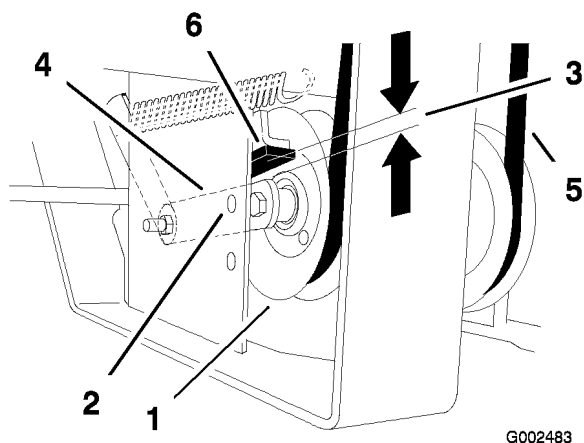

Figure 54
9. Check the distance from the rubber stop and the arm of the spring loaded idler pulley when the idler plate is tightened. It needs to be 0 to 1/4 inch (0 to 6 mm) from the rubber stop (Figure 54).